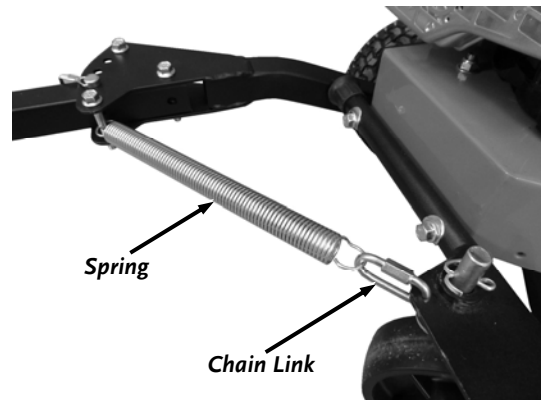

Figure 10
10. Install the Chain Link into the inside hole of the Caster Bracket and place the end of the Spring into the Link (*Figure 10*). Close the Link to secure the Spring.